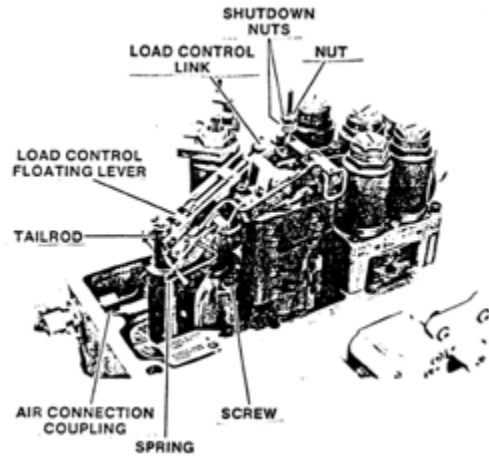

Figure 5-3. Fuel Limiter Installed
4. Remove fuel limiter (Figure 5-3).